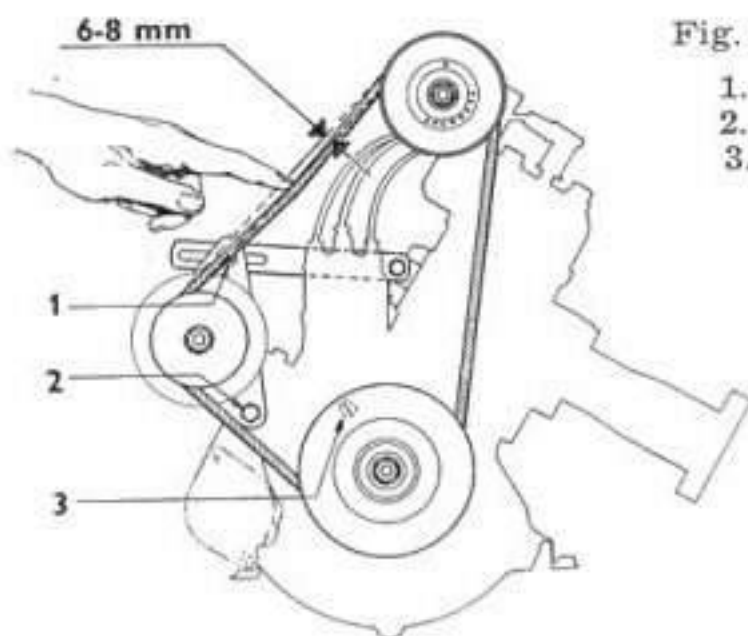

Fig. 26. Adjustment of Belt Tension
The generator is located to the right of the engine and is driven by a V-belt from the crankshaft pulley. To tighten the belt, loosen the bolts 1 and 2, fig. 26, and pull the generator outwards. The correct tension is attained when the belt can be pressed inwards about 6—8 mm ($\frac{1}{4}$ in.) on the longest run. See fig. 26. Do not overtighten the belt, since this will cause excessive load on the generator bearings and heavy belt wear. When the tension has been correctly adjusted, tighten the bolts 1 and 2.
1. With the distributor cap removed and the breaker points adjusted, turn the crankshaft until the index on the crankshaft pulley coincides with the crankcase index underneath the distributor, as shown in fig. 26. The piston in cylinder 2 is now at its top dead centre.
points begin to open at 10° , or if a dial gauge is used, 0.7 mm (.028 in.) before T.D.C. If a dial gauge is not available, the distance between the pulley index and the crankcase index, fig. 26, may be measured. The distance measured on the pulley periphery corresponding to 10° is 12—13 mm ($\frac{1}{2}$ in.).